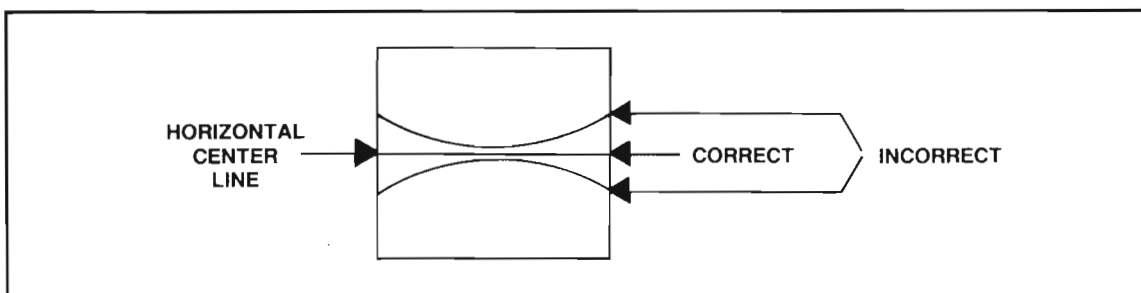

Figure 8
- If the line is not straight, locate the control marked "vertical bow" on the convergence board. Adjust until the line is straight. Make this adjustment looking at the center horizontal line only. For the moment, ignore everything else. (See Figures 8 and 9.)